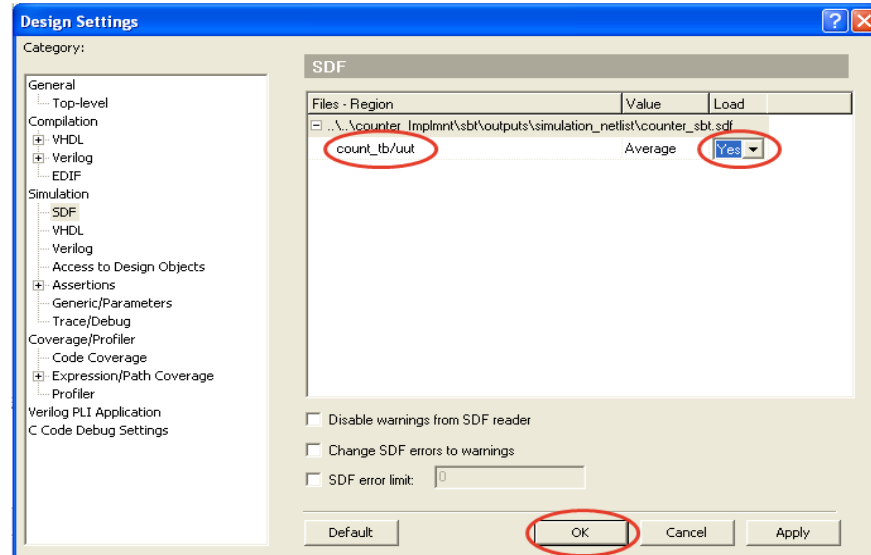

Figure 10-23 : Set SDF Options.
9. Select Design→Settings to open up the “Design Settings” Wizard. Select SDF in the category panel. Set the Region to “count_tb/uut” and change the Load option to “Yes” as shown in Figure 10-23. The SDF value selection can be set to “Minimal”, “Average” and “Maximal”. The value is set to “Average” by default. Click on “OK” icon to close the wizard.